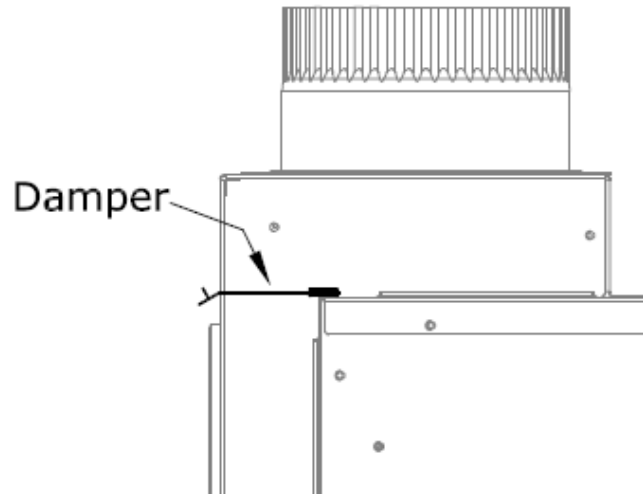

Figure 4.5 - HTK Air Chute Damper Resting Position
**Note:** If you are using a HTK-EXT the damper stays in place. Make sure the damper rests on the unit and can move freely when airflow would be applied. The damper should lay flat on the fireplace as shown in Figure 4.5.